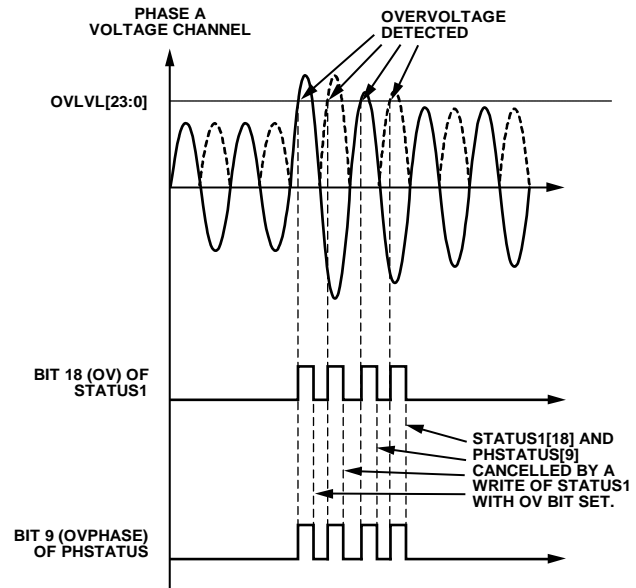

Figure 72. Overvoltage Detection
Figure 72 shows overvoltage detection in the Phase A voltage. When the absolute instantaneous value of the voltage goes above the threshold set in the OVLVL register, Bit 18 (OV) in the STATUS1 register and Bit 9 (OVPHASE[0]) in the PHSTATUS register are set to 1. Bit 18 (OV) of the STATUS1 register and Bit 9 (OVPHASE[0]) in the PHSTATUS register are cleared when a 1 is written to Bit 18 (OV) in the STATUS1 register.